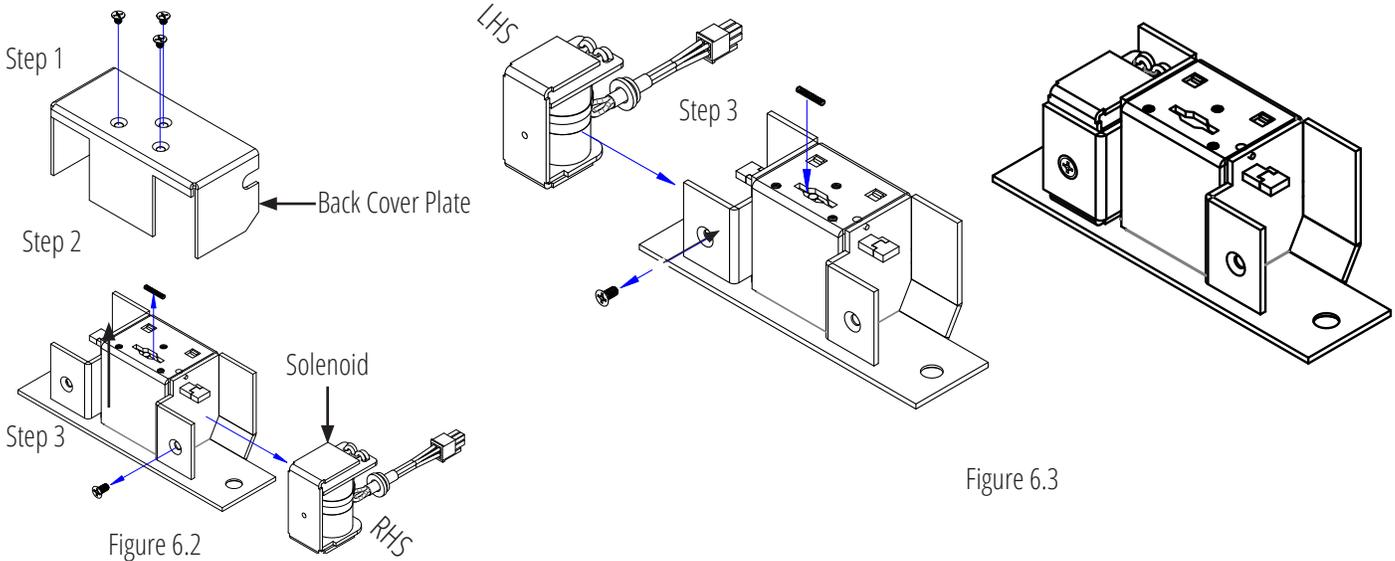

Figure 6.3
3. Loosen and remove solenoid screw and change solenoid direction as per requirements. (See figure 6.3 for more details).